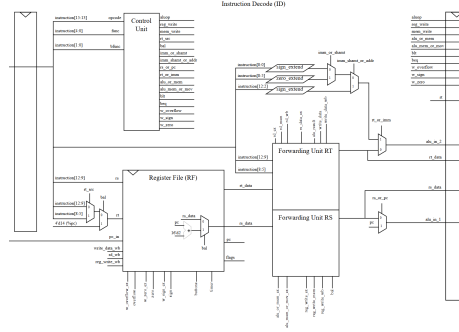

Figure 3: The Instruction Decode (ID) stage of the architecture
Instruction Decode (ID) is a more complex stage. At the beginning of the clock cycle, *ID* takes the instruction to be executed from *IF*. Based on the instruction, it sets some control data and retrieves values from the *Register File*. The main components of this stage are the *Control Unit (CU)* and the *Register File (RF)*. This section also contains the important *Data Forwarding Unit*. The datapath of the *ID* stage is shown in Figure 3.